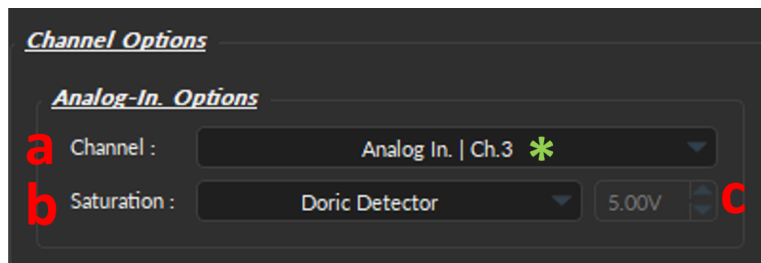
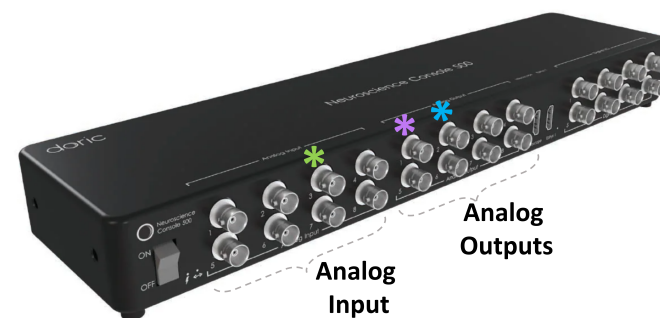

Figure 11.79: *LockIn, Channel Options*
Figure 11.80: *LockIn, NC500 ports*
- a) The **Channel** (Fig. 11.79, a) identifies which of the NC500 ports receives the **analog input** data from the sensor/device (Fig. 11.80).
- b) The **Saturation** (Fig. 11.79, b) specifies the detectors used to collect the **Analog Input** data and automatically set its corresponding **Maximal Voltage** value (Fig. 11.79, c) that saturates it. Choosing the right detector is important as different detectors are saturated at different voltage levels (Table 11.2). If none of the common detectors are collecting data, use the **AIN** option to set the NC500 **Maximum Voltage** (10V), or the **Custom** option to set it between 0V and 10V.
- c) The **Maximum Voltage** (Fig. 11.79, c) displays the values at which preset detectors are saturated (Table 11.2). This value is used to warn users when the collected signal is saturating the detector, as in Fig. 11.18.